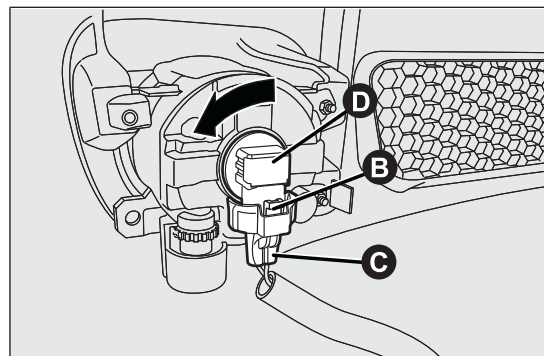

fig. 116
- ☐ adjust the clip B fig. 116 and disconnect the electrical connector C;